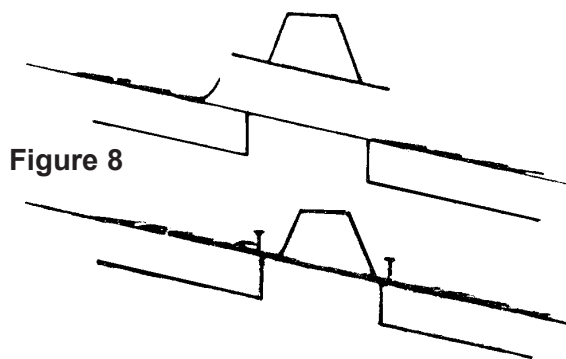

Figure 8
3. Install the boot flashing (6 or 8SBF) making sure the flashing cone is centered over the roof opening so the chimney pipe is plumb and the **2" air space clearances are maintained**. Before attaching the flashing to the roof, place a bead of caulk under the edges. Slip flashing under overlapping roof shingles as far as possible before nailing flashing to roof. Trim, cut or replace shingles to fit cone as necessary. Thoroughly caulk around edges of flashing. Add chimney sections until the pipe extends through the flashing (see Figure 8.)